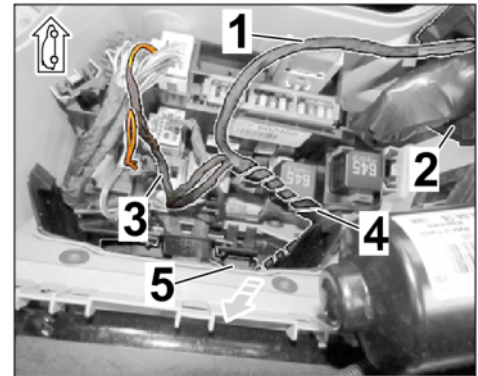

Figure 24
- 2.4.5 Carefully guide wire harness for engine noise control unit/pulse sender through the new opening (sleeve) into the fuse box (E-box) (⇒ *Figure 24*).